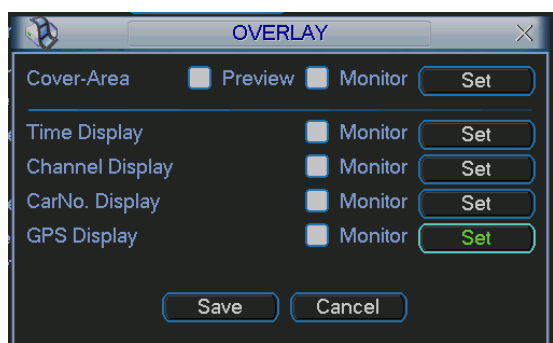

Figure 3-8
- Overlay: Click overlay button, you can see an interface is shown in Figure 3-8. Please note the following overlay titles can not be in the same position. **Please note only the unit of GPS module supports GPS overlay function.**